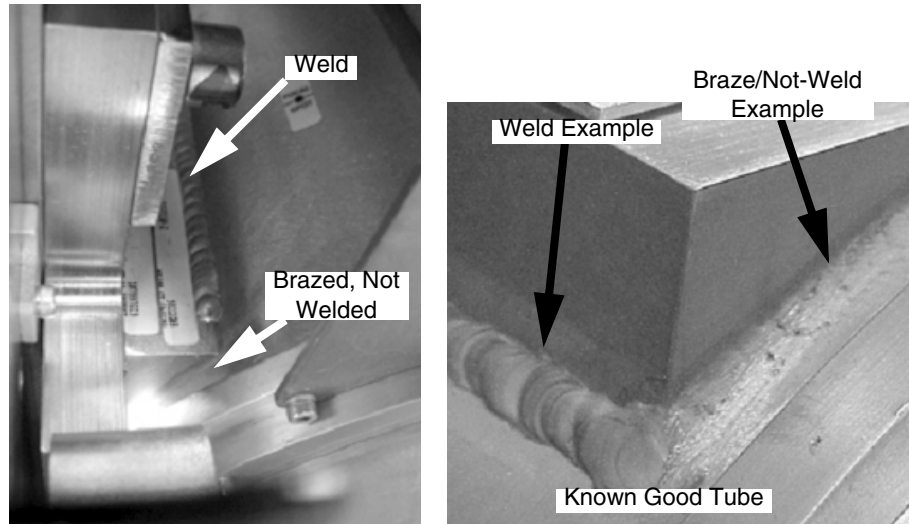

Figure 11 - Weld on one side; Close up of Braze/Not-Weld and Weld (right) - Inspection Passes, No Problem with this tube casing. Go to “FMI Completion.”
The photo at the right of Figure 11 shows an example of a Braze that does not look smooth, but is still different from a weld. This is intended to improve proper identification of a weld.
- a.) If the welds are *not* on all sides, as shown in Figure 11, then proceed to Section 4 - Mounting Bolt Replacement.